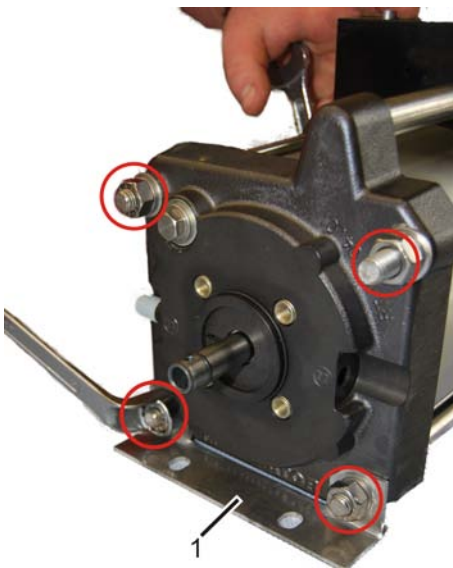

Fig. 65: Stay bolt
- 1.** ➔ Undo threaded union of 4 stay bolts (Fig. 65/1) and secure to prevent from getting lost.
3. ➔ Remove mounting bracket (Fig. 65/1).